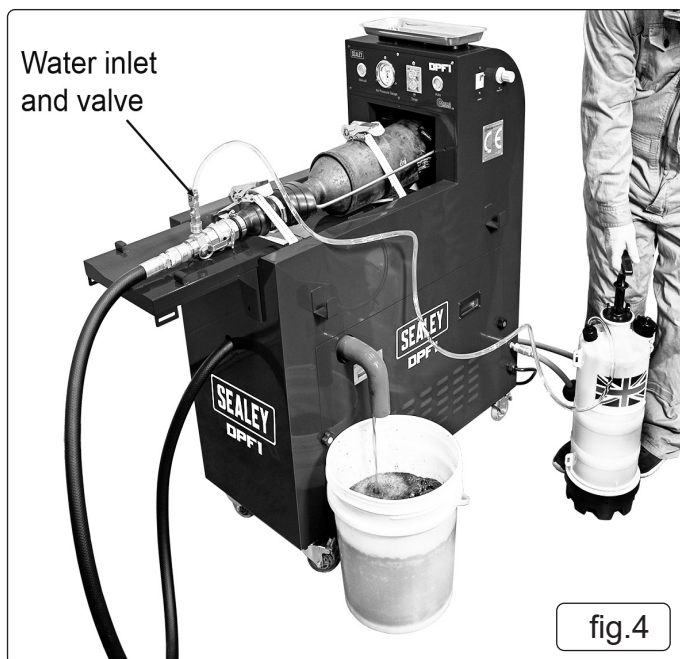

fig.4
5.2. OPERATION PREPARATION (fig.4)
- 5.3.2. Pressurise water container and open water inlet valve on air connection fitting (fig.4).